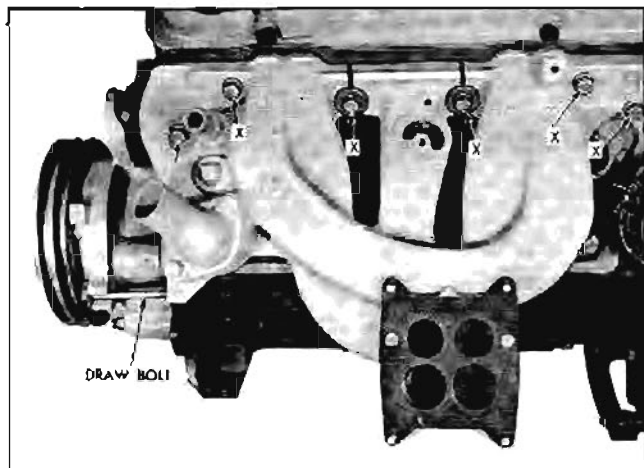

Fig. 6-15 Location of Manifold Attaching Screws
12. Loosen manifold to timing cover draw bolt (Fig. 6-15).
13. Remove manifold attaching screws (Fig. 6-15).